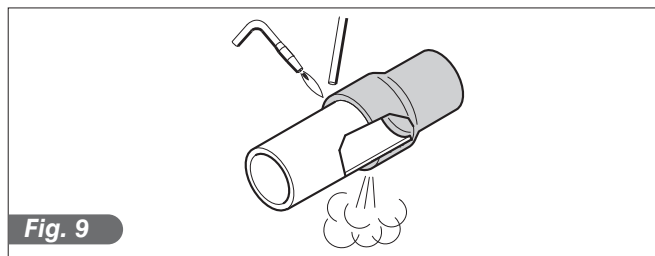

Fig. 9
- 3) Hermetic sealing (Fig.9).